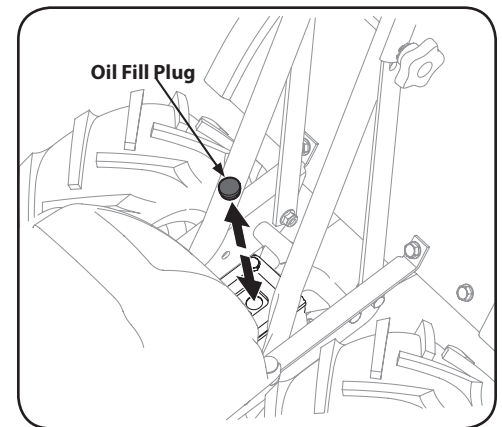

Figure 4-2
3. Clean the area around the oil fill plug. See Figure 4-2.
4. Remove the oil fill plug from the transmission housing and look inside the oil fill hole to locate the main drive shaft situated below the hole. See Figure 4-2.